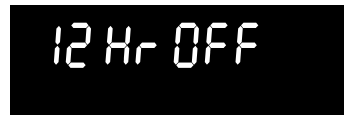
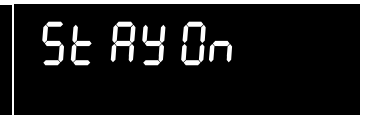

Fig. 4
Fig. 5
2. Press **Flex Clean** to toggle between 12 Hour OFF (Fig. 4) or Stay On (Fig. 5) feature.